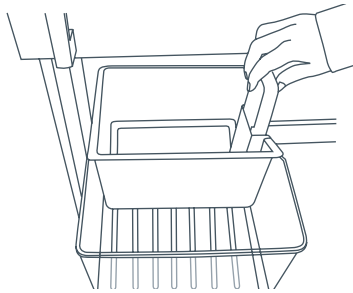

Fig.12 Ice storage bin and scoop
- If the bin is full, or inserted incorrectly the ice maker will not operate. When the bin is inserted correctly the scoop will be on the right hand side of the bin (refer to Fig.12 on page 12). If the bin is removed the ice maker will not operate.